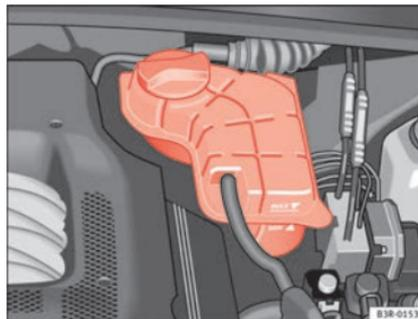

Fig. 172 Engine compartment: Coolant fluid deposit
- Check the coolant level on coolant fluid expansion tank ⇒ Fig. 172. When the engine is cold, it should be between the “min” and “max” marks. When the engine is hot, it may be slightly above the “max” mark.
- Cover the cap on the expansion tank ⇒ Fig. 172 with a cloth, and **carefully** unscrew the cap anticlockwise ⇒ ⚠.